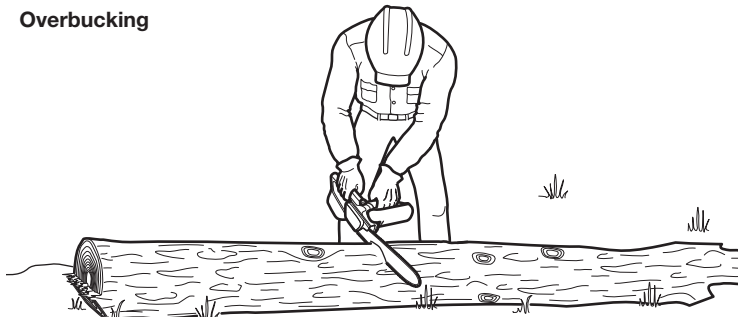

Fig. 31
When logs are supported along the entire length, extra care should be taken to make sure the saw chain does not contact the ground or other support structure (Fig. 31).
1. Begin cutting from above, with the bottom of the saw chain against the top of the log (Fig. 31).